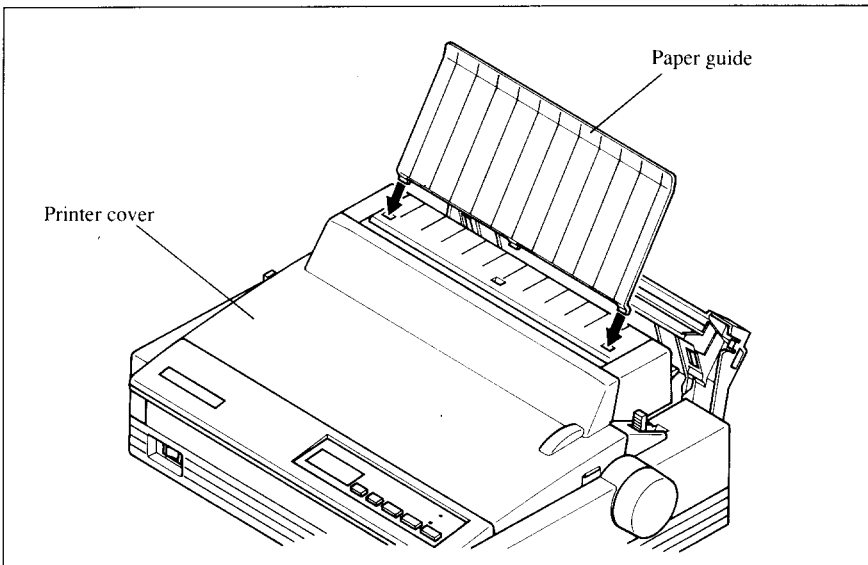

Figure 7-14. Mount the paper guide and the printer cover onto the printer.
6. Install the paper guide provided with the Pull Tractor Unit, as shown in Figure 7-14.